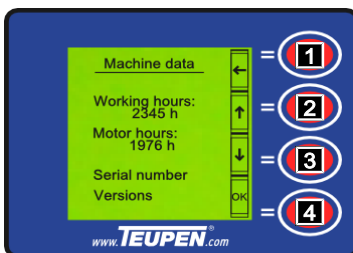

Fig. 84
1. Use the [function keys] (Fig.84/2 and 3) to select a submenu.
2. Access the selected submenu with the [function key] (Fig.84/4).
3. Return to the [main menu] with [function key] (Fig.84/1).